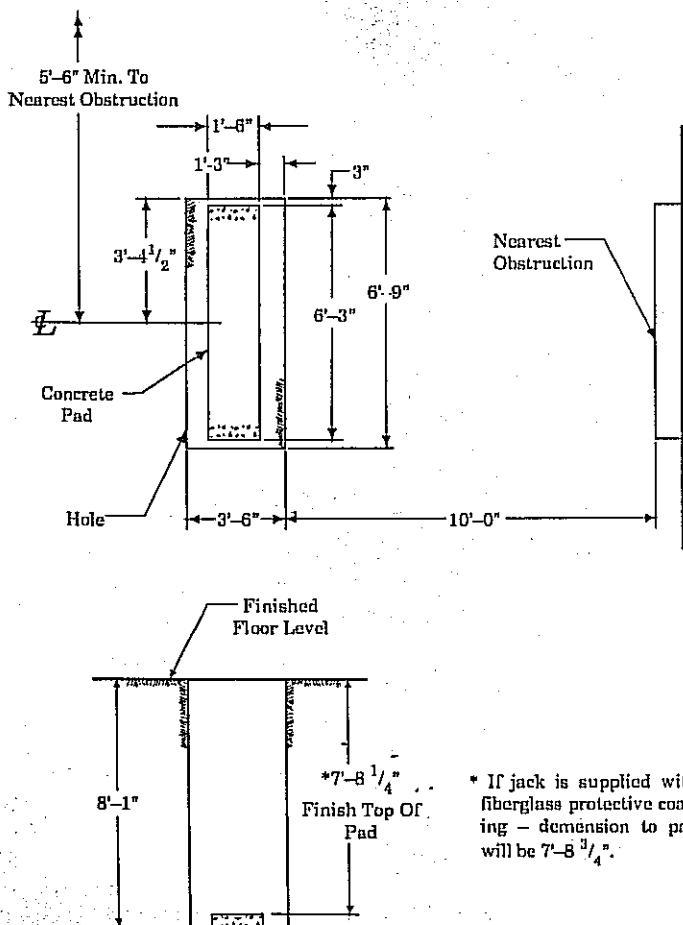

Fig. 2
- EXCAVATION:** Excavate hole to dimensions shown in Fig. 2. If oil tank is to be installed underground, but not in same excavation as jacks, the tank hole should be at least 2'-0" in diameter and 7'-0" deep. Dig trenches 12" deep for air and oil lines between lift tank and control valve location. Locate control valves to give the operator an unobstructed view of the lift area. Pour concrete slab in bottom of hole as shown in Fig. 2. Be sure distance from